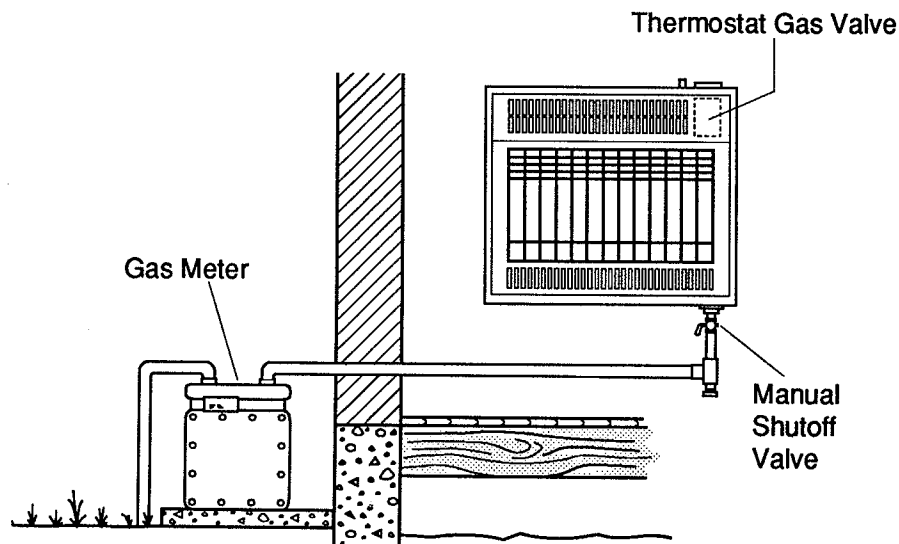

Figure 13 - Checking Gas Joints
3. Check all joints from gas meter to manual shutoff valve (see Figure 13). Apply mixture of liquid soap and water to gas joints. Bubbles forming show a leak that must be corrected.
4. Check all joints from manual shutoff valve to thermostat gas valve (see Figure 13). Apply mixture of liquid soap and water to gas joints. Bubbles forming show a leak that must be corrected.